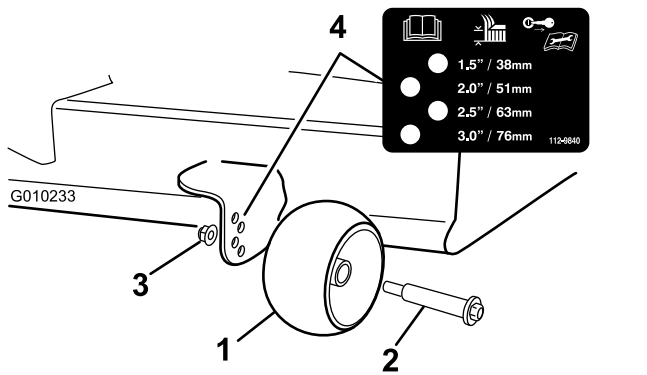

Figure 23
3. Adjust the anti-scalp rollers (Figure 23) to match the closest height-of-cut position.